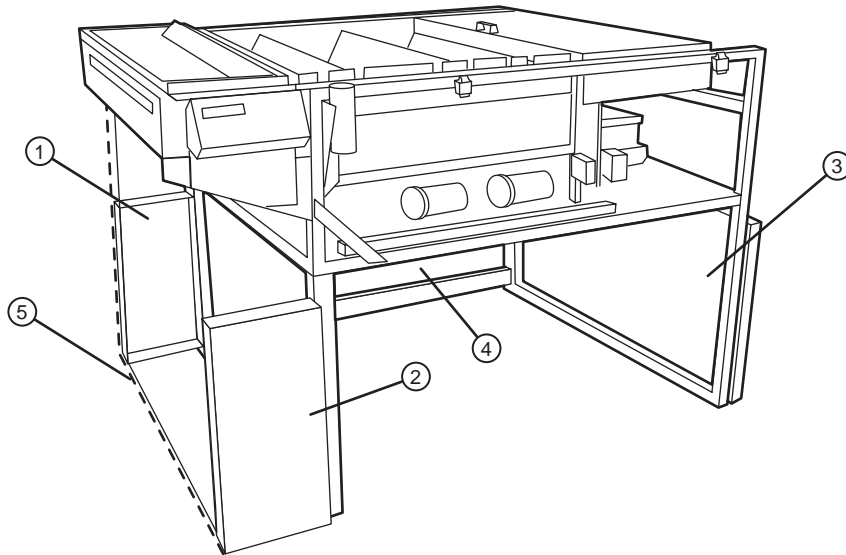

Figure 1-15 Attaching covers and panels to the OLP.
3. Attach the front panel. Refer to Figure 1-15.